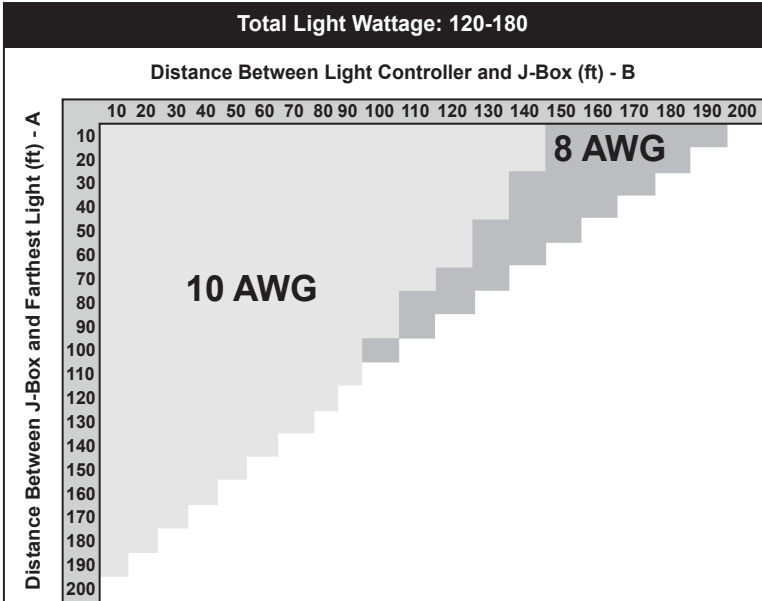
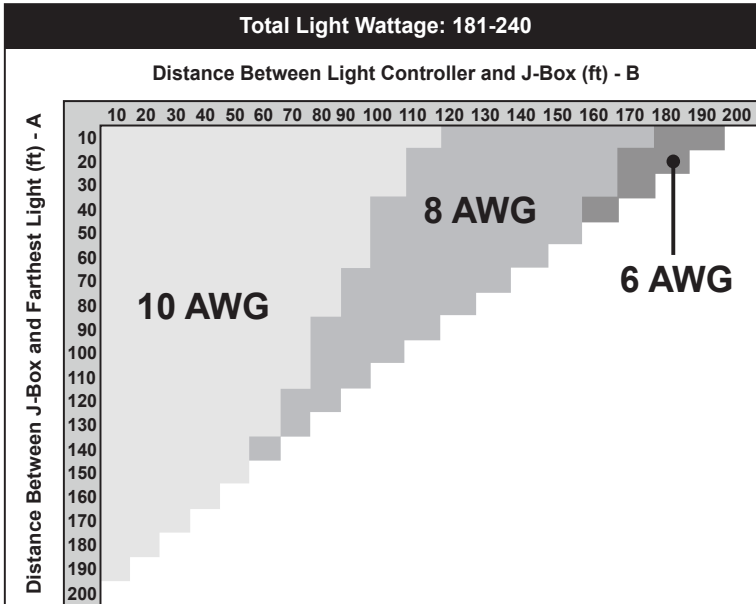

Figure 5. Wire Gauge Selection Chart 120-180W
Figure 6. Wire Gauge Selection Chart 181-240W
- For all installations, use a minimum of 10 AWG wire. Refer to Figure 5 for proper wire size on new or upgraded installations.
For total wattage between 120-180W see figure 5, for total wattage between 181-240W see figure 6.